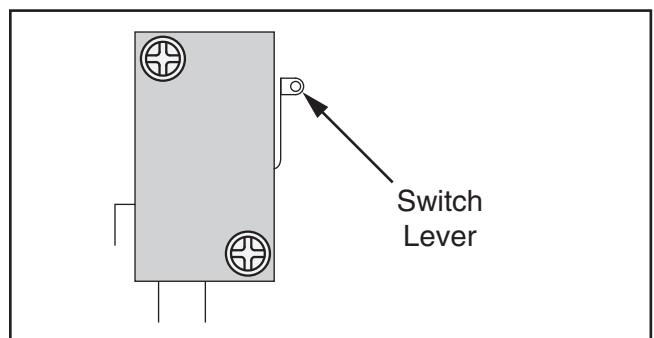

Figure 29. Example of typical limit switch lever.
15. Have an additional person verify Z-axis limit switch is functioning correctly by pushing in switch lever until audible "click" is heard (see **Figure 29**).